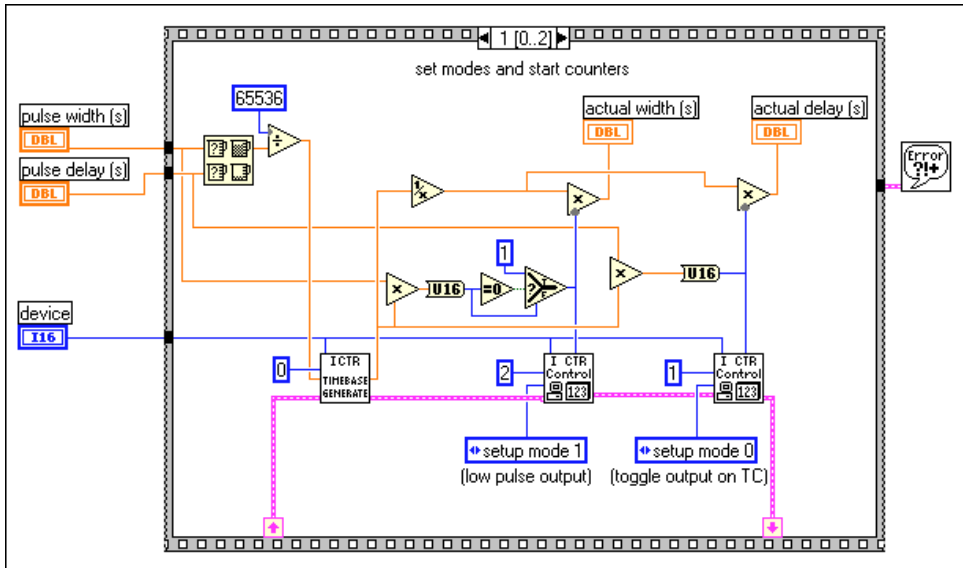

Figure 24-10. Frame 1 of Delayed Pulse (8253) VI
Figure 24-10 shows frame 1 of the sequence where the counters are set up for different counting modes. **Counter 0** is set up to generate a timebase using the ICTR Timebase Generator subVI. **Counter 1** is set up to toggle its output (low-to-high) when it reaches terminal count (TC). This toggled output is used to gate **Counter 2**. **Counter 2** is set up to output a low pulse when its gate goes high.